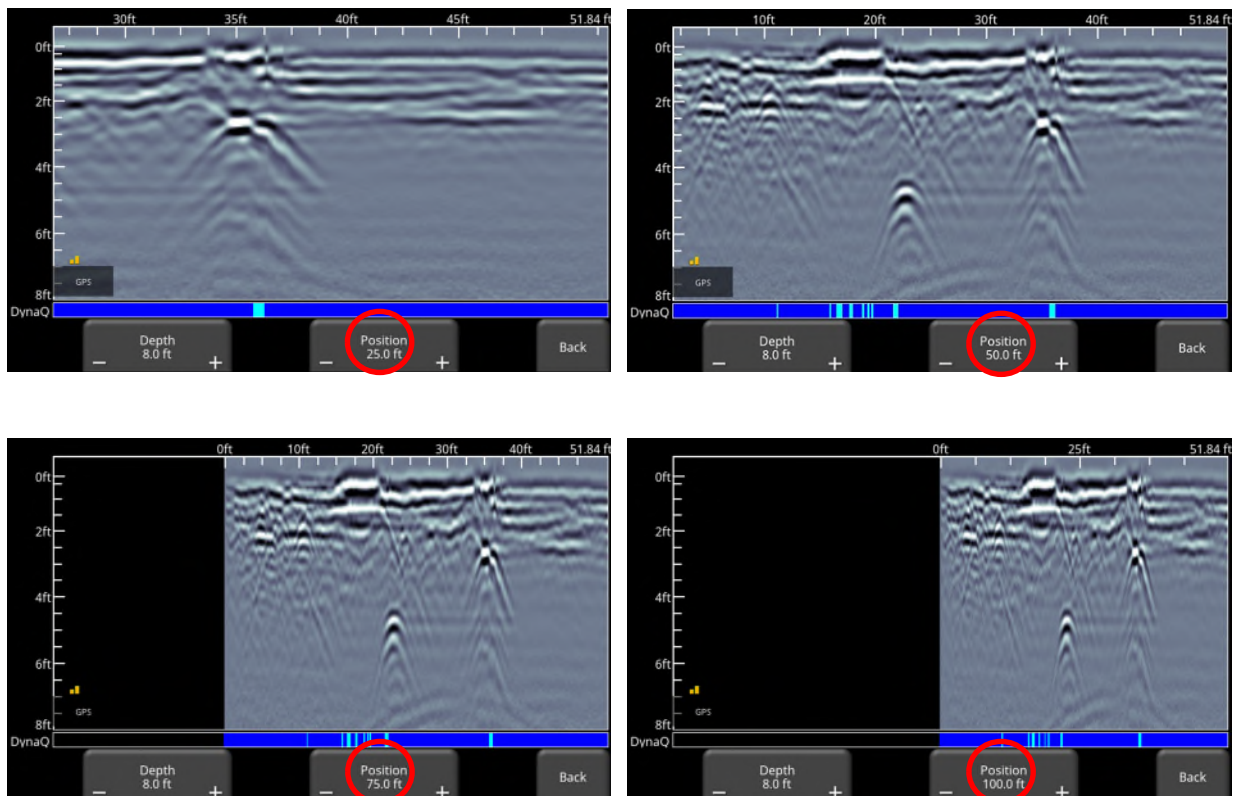

Figure 6-12: Varying position, or horizontal scaling
- **Position** – Pressing **+** and **-** under the **Position** button allows you to change the length of data displayed on a single screen. This is also known as horizontal scaling. The pre-set values range from 10m to 30m (25' to 100'), see Figure 6-12.